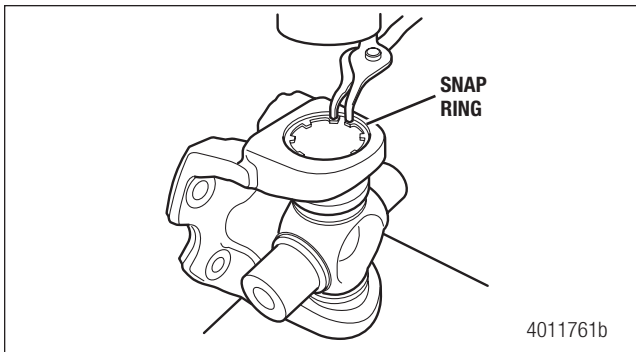
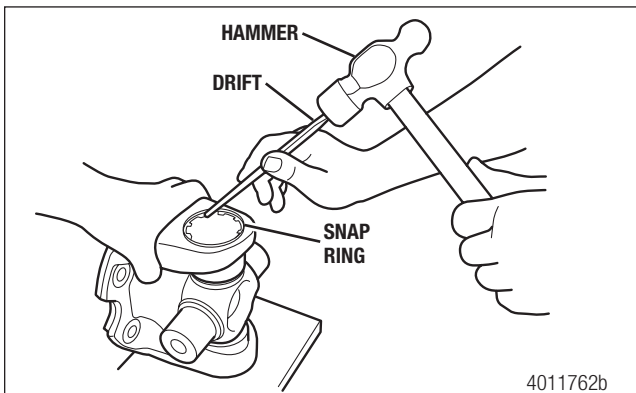

Figure 5.87
Figure 5.88
7. Install the new snap ring. Ensure it is seated all the way around the groove. Use a drift and hammer if needed to seat it in the groove all the way around. If the snap ring will not seat correctly, make sure the snap ring groove is clean and free of debris. Figure 5.87 and Figure 5.88.